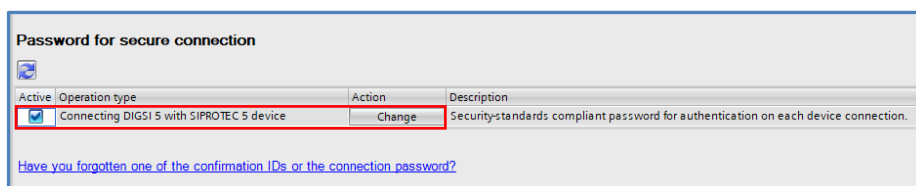

Figure 3.3: Online connection active and Password activated
After entry of the password the checkbox for „active“ is set and it is possible to change this and also the password itself (Figure 3.3)
- If the connection password is activated in the Confirmation IDs and connection password section, deactivate it (see chapter 3.1; Figure 3.3 unhook in case the “active” was set)